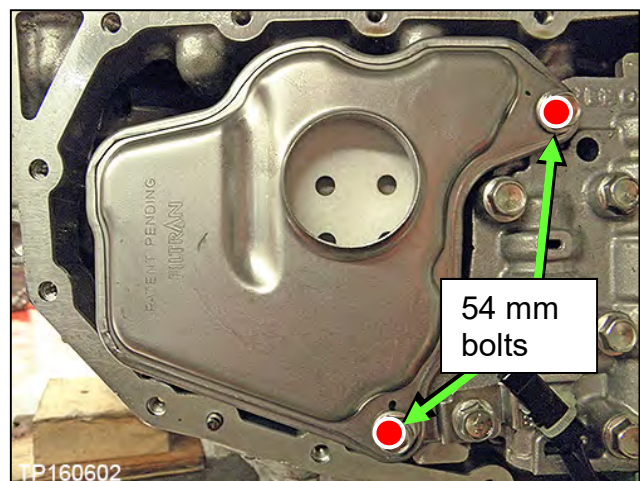

Figure 148
118. Install the new oil strainer with its new O-ring seal with two (2) bolts (Figure 148).